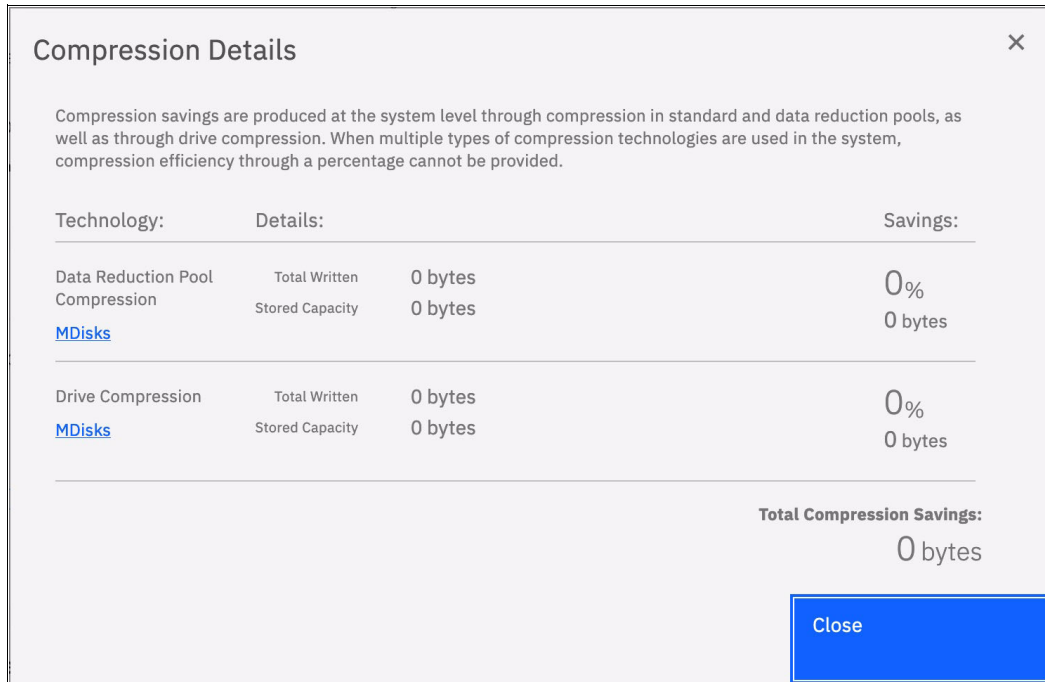

Figure 4-6 Compression savings dashboard report
- ▶ As the savings from DRP (compression and deduplication) that is provided at the DRP level, as shown in Figure 4-6.